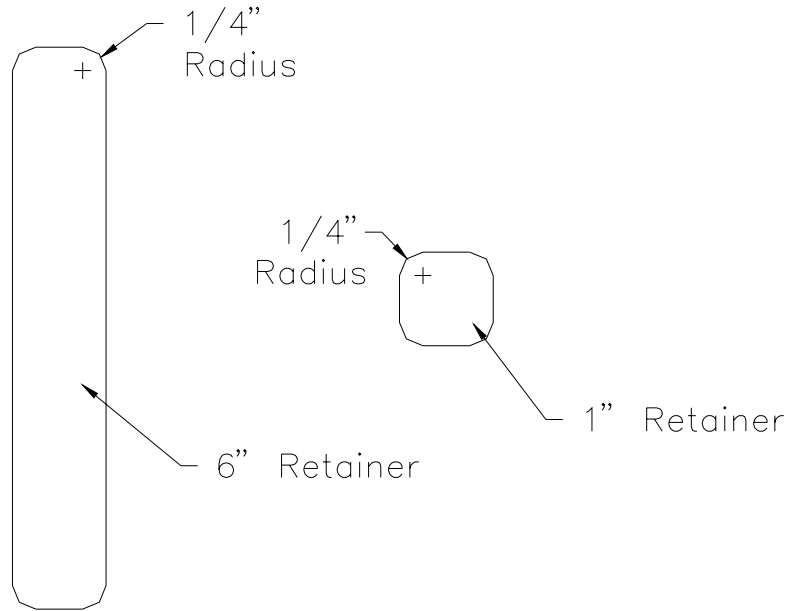

Figure 20.5.12
- 19) Sand and round corners of the parts. Figure 20.5.12.